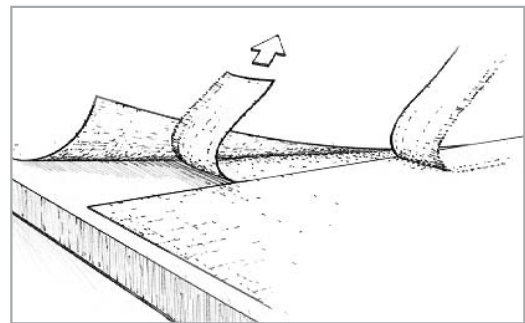

Figure 8-21 Remove the topmost trimming. Then lift the opposite cut edge to remove the overlapped trimming.
- c) Remove the topmost trimming and then lift the opposite cut edge to remove the overlapped trimming (*Figure 8-21*). d) Re-wet the underside of the raised edge with epoxy and smooth into place.